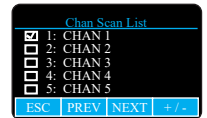

Figure 5
- Select the channel/channels to scan using the "PREV/NEXT" softkeys, then press the "+/-" softkey to add or delete the channel from the scan list. (See Figure 5)